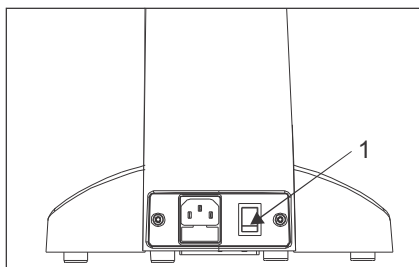

Fig. 19
1. Flip the main switch to "I" (ON) as shown (Figure 19).